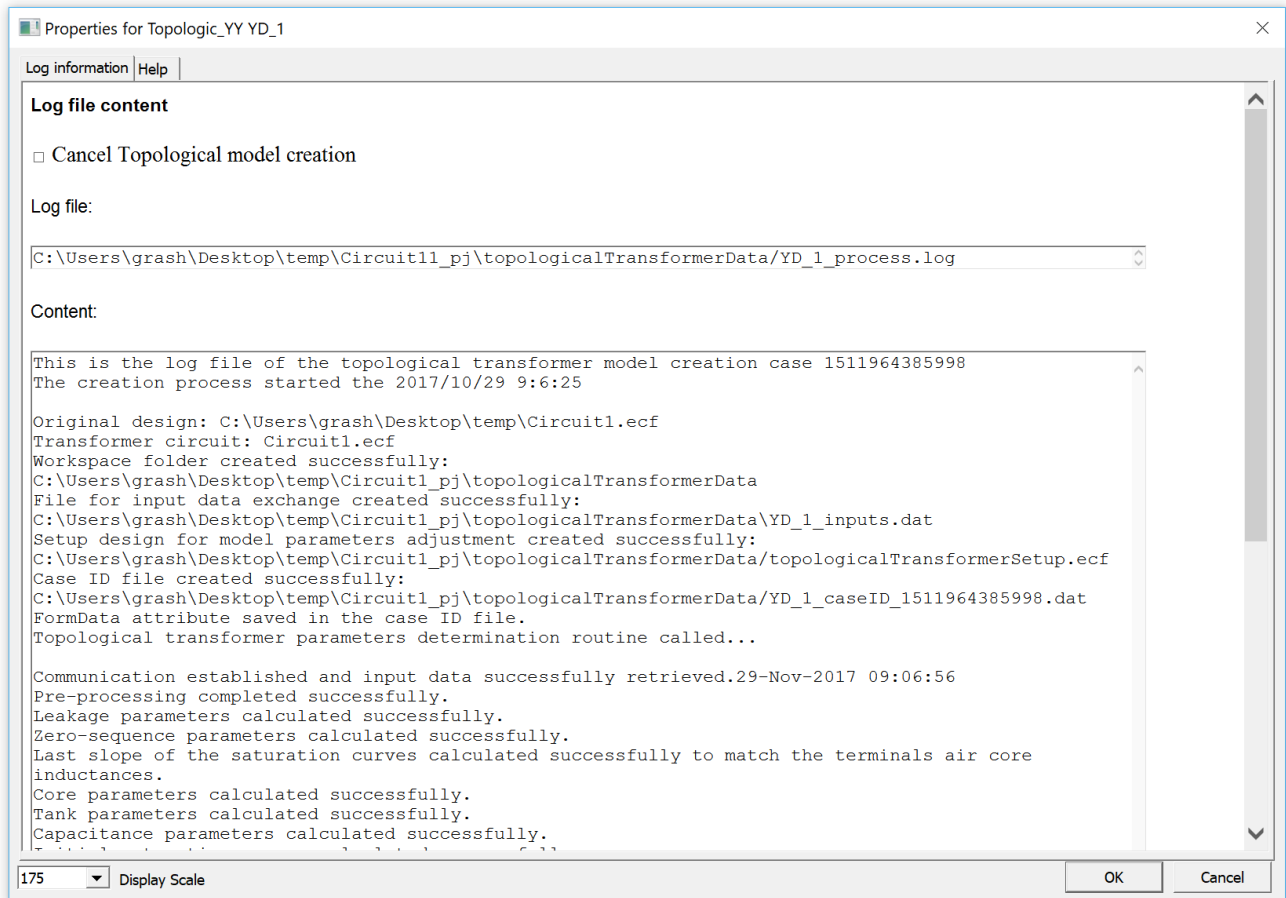

Figure 1: Parameter calculation log information
- YD_1_process.log: is the Topological Transformer setup log file. This file can be visualized during the Parameter calculation process by double clicking on the transformer device in the GUI (see Figure 1). At any time, the user can interrupt the calculation routine.
- YD_1_caseID_XXXXXX.dat: is the Case file. It contains the final Topological Transformer FormData and Modeldata attributes. Its name contains a unique identifier (ID) which is changed anytime the Parameter Calculation routine is started.